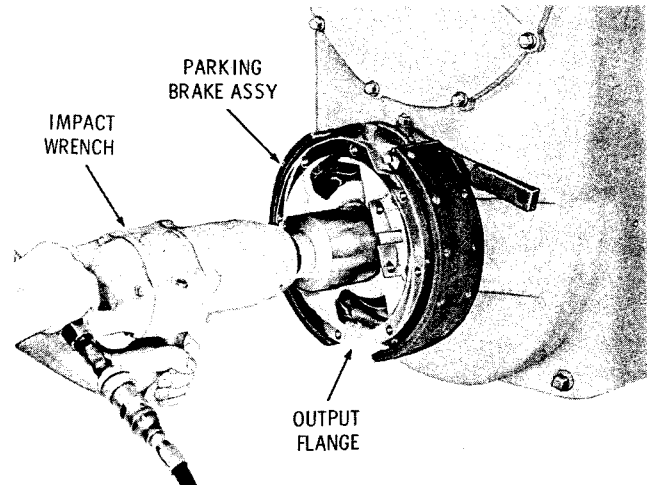
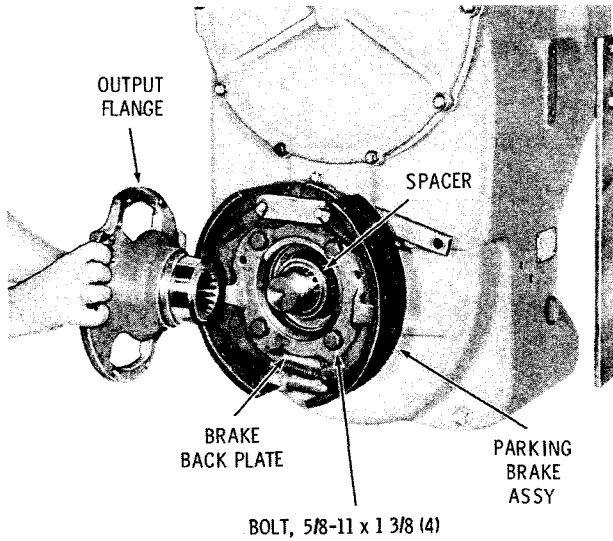

Fig. 5-4. Removing rear output flange nut
Fig. 5-5. Removing rear output flange
(2) Refer to paragraph 4-7. Remove the rear output flange nut (fig. 5-4). Remove flange retaining washer 31 (A, foldout 7) and sealring 30. Remove the rear output flange (fig. 5-5).
(3) The parking brake can be serviced in this position (see para 6-3) or the parking brake can be removed as an assembly. Remove bolts 21 (B, foldout 8), and washers 20. Remove brake assembly 2. Refer to paragraph 6-3 for parking brake assembly rebuild.